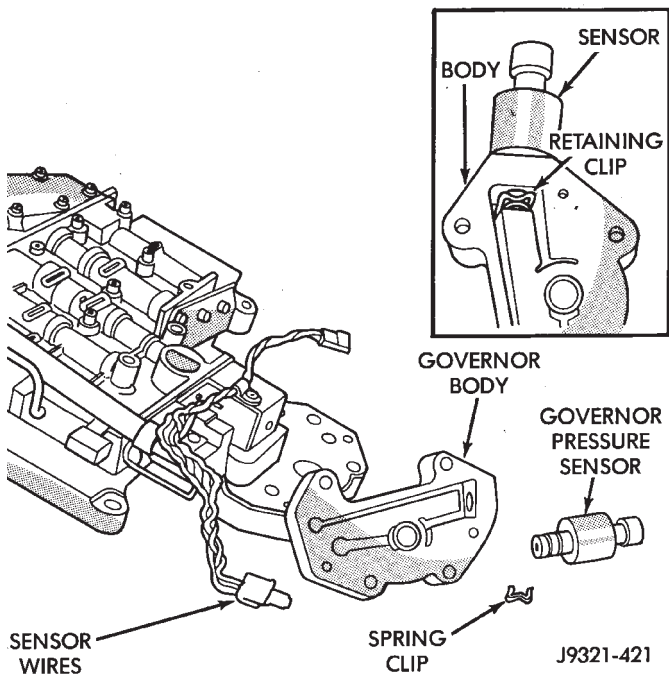

Fig. 93 Governor Pressure Sensor Removal
(4) Disconnect wires from governor pressure sensor, if not done previously (Fig. 93).
(5) Remove governor pressure sensor from governor body. Sensor is retained in body with M-shaped spring clip (Fig. 93). Remove clip with small pointed tool and slide sensor out of body.